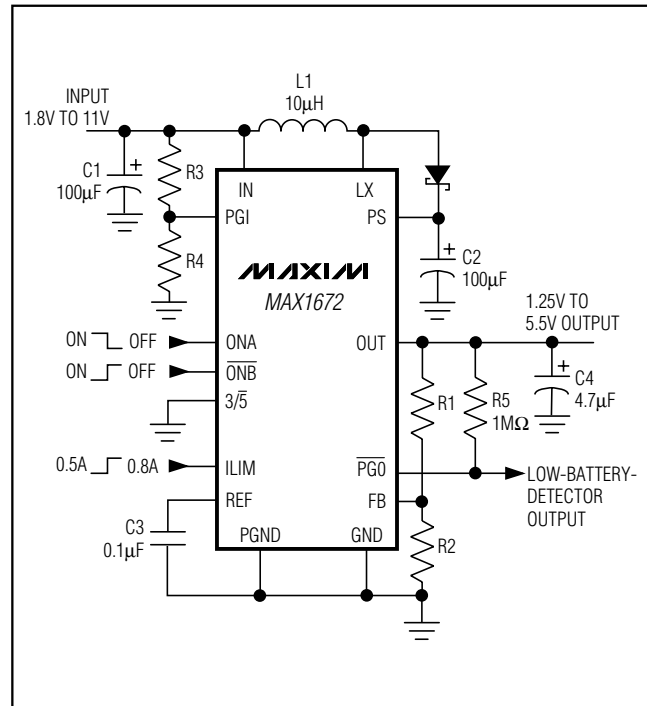

Figure 2. Adjustable Output Voltage Configuration
For fixed output voltages of 3.3V or 5V, connect  $\overline{3/5}$  to PS or GND and connect FB to GND (Table 2). Alternatively, adjust the output voltage from 1.25V to 5.5V by connecting two resistors, R1 and R2 (Figure 2), which form a voltage divider between OUT and FB. Choose resistor values as follows:
The MAX1672 contains a comparator for low-battery detection. If the voltage at PGI falls below  $V_{REF}$  (typically 1.25V), the open-drain comparator output ( $\overline{PGO}$ ) goes high. Hysteresis is typically 30mV. Set the low-battery detector's threshold with resistors R3 and R4 (Figure 2) using the following equation:
- Keep the IC's GND pin and the ground leads of C1 and C2 (Figure 2) less than 0.2in. (5mm) apart.